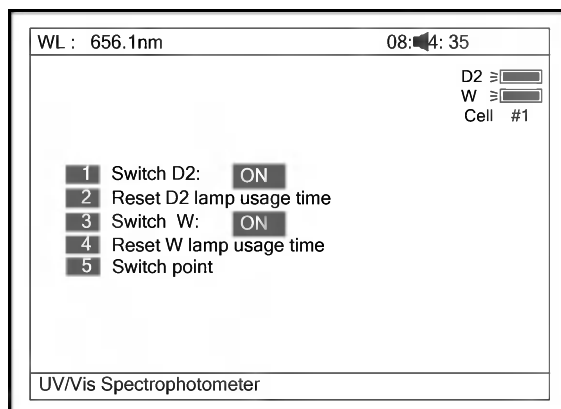
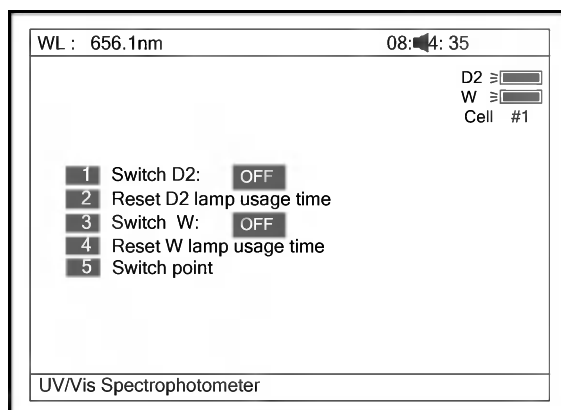
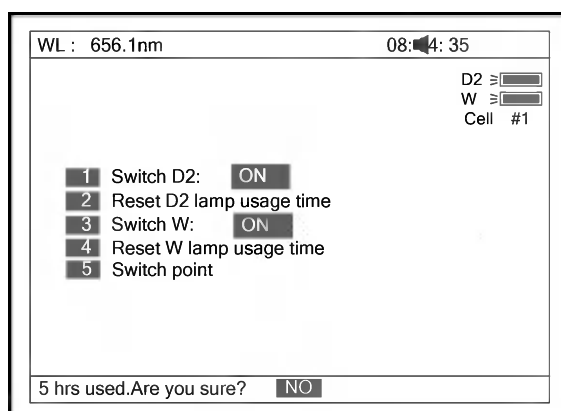
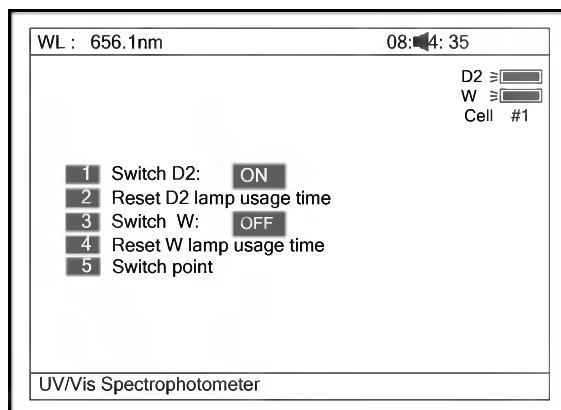

Fig 79
Fig 80
Fig 81
Fig 82
Press **【3】** to set lamp (Fig 79). **【ESC/STOP】** to exit.
1. Press **【1】** in Fig 79 to switch on/off D2. Fig 80.
2. Press **【2】** in Fig 79 to reset usage time of D2(Fig 81). Press **【^】** or **【V】** to select "Yes" or "No", and then press **【ENTER】**.
3. Press **【3】** in Fig 79 to switch on/off W. The indication is also on the top right corner of the screen (Fig 82).
4. Press **【4】** in Fig 79 to reset usage of W (Fig 83). Press **【^】** or **【V】** to select “Yes” or “No”, and then press **【ENTER】** .
5. Press **【5】** in Fig 79 to set the switch usage point of D2 and W lamp (Fig 84).